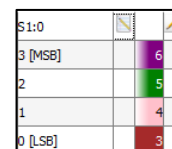

Figure 20: Bus for Exercise
**Exercise:** Open the Pattern Generator in a separate window so you are able to see the Pattern Generator and Logic Analyzer at the same time. On the Pattern Generator, configure Digital I/O signals 5 and 4 as a bus and change the type to binary counter with a 1kHz frequency. Press Run on the Pattern Generator. Press Run on the Logic Analyzer and observe the count. Add Digital I/O signals 3 and 6 to the bus on the Pattern Generator. Make sure the order is the same as what is seen in Figure 20. Press the parameter button on the Logic Analyzer and change the clock from None to DIO 3 with a Rising Edge and change the enable from None to DIO 4 as a high enable. Press ok. Observe on the Logic Analyzer how the bus number is only read when the enable is high, and that the clock and enable are not included in the bus number.